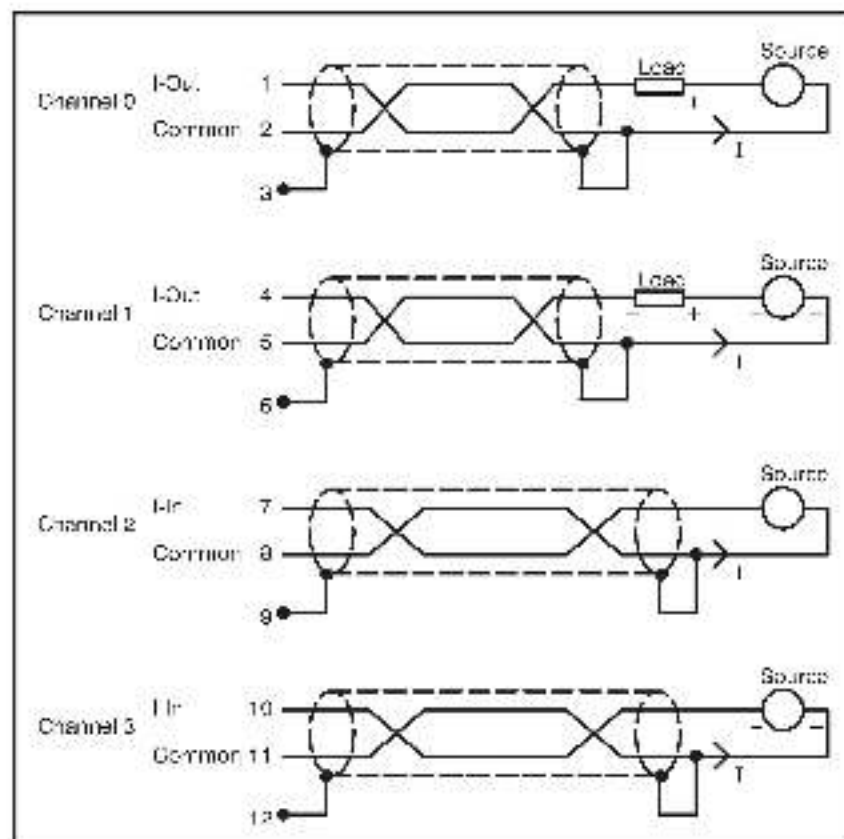

Figure 3.2- Typical Recommended Input and Output Shielding Methods
- Step 10. For each of the two output channels, connect a shield wire from the external hardware to the third terminal (terminals 3 and 6, respectively). The shield wire at the external hardware end of the cable should be connected to the source reference point. See figure 3.2.
- Step 11. For each of the two input channels, connect a shield wire from the external hardware to the third terminal (terminals 9 and 12, respectively). The shield wire at the external hardware end of the cable should be connected to the source reference point. See figure 3.2.
- Step 16. Turn on power to the "Input Power" wiring. Turn on power to the external hardware. Recall that external hardware being powered by the output of the Analog Rail module must be in series with an external power supply. See figure 3.2. See Appendix A for the power supply specifications.